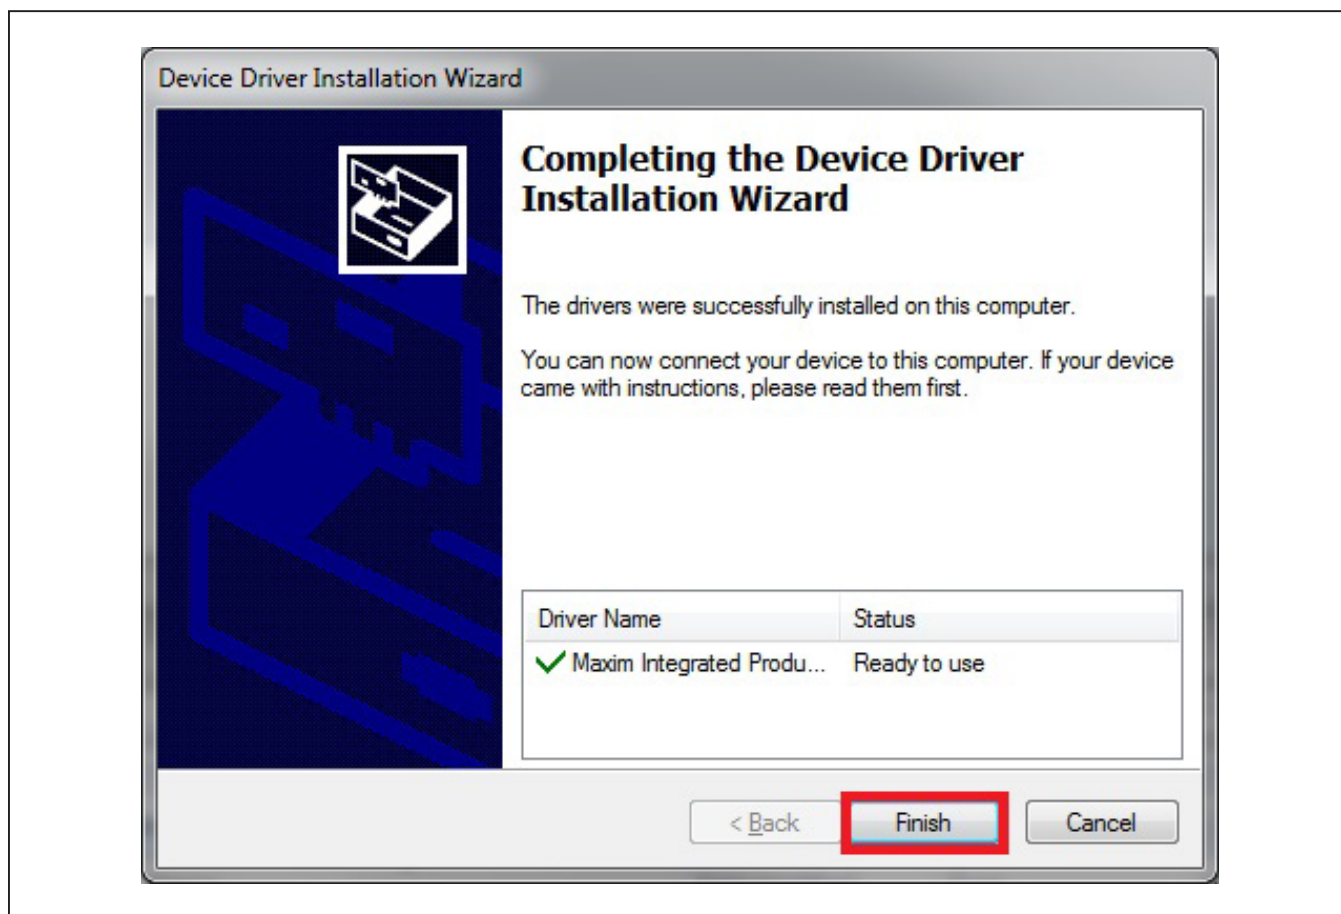

Figure 7. Device Driver Installation Finished
- 8) Click on **Finish** to close the final window and confirm the driver is installed correctly (Figure 7).